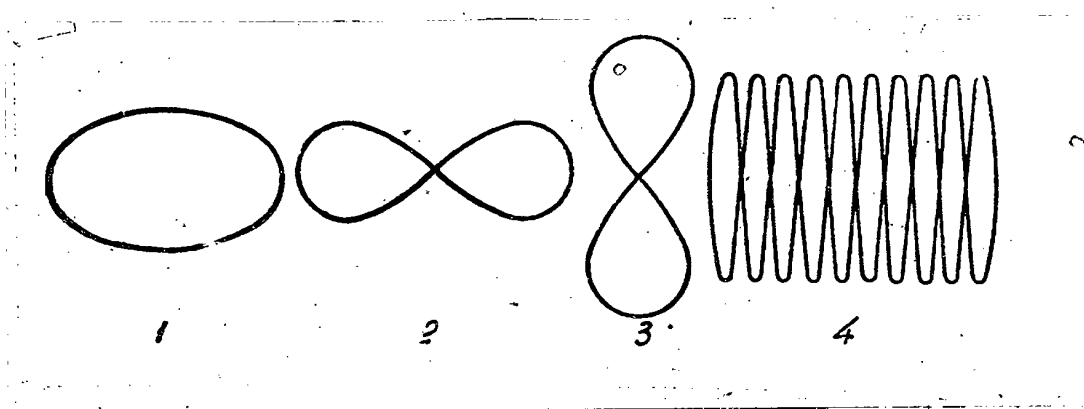

Figure 12: Images appearing on the CRO screen in the course of the 200, 40, 20 and 10 kc oscillator adjustment of the crystal calibrator.
7. Turn the audio signal generator scale both directions from the position fixing the 20 kc frequency so as to obtain on the oscilloscope screen an image similar in shape to that shown in fig. 12,4.
Adjustment of the 40, 20 and 10 kc oscillators is carried out in the same way as that of the 200 kc oscillator. The images obtained on the oscilloscope screen in the course of the adjustment of the individual oscillators are shown in Fig. 12.